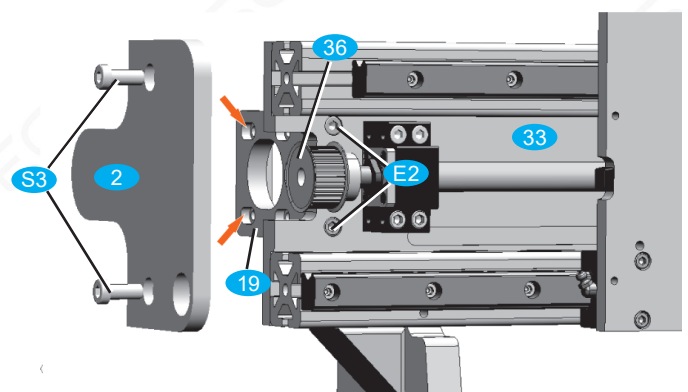

Fig. 20: Assembly of motor flange Y and left end plate
- Screw the motor flange Y **19** to the portal beam **33** using cylinder screws M6x20 **E2** it is important to ensure that the recesses in the motor flange (red arrows in Figure 20) point outwards and that the motor flange is aligned at an angle.